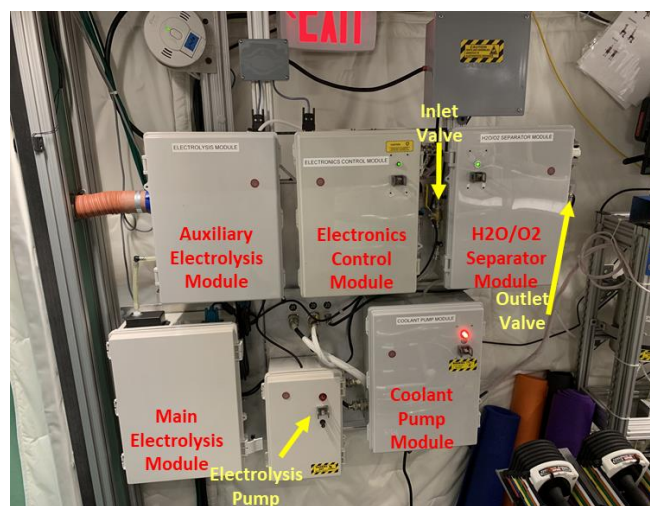

Figure 9: Solid Polymer Electrolysis System
- 4.4 Flip power switch on Electrolysis System Pump to "ON" (see Figure 9).